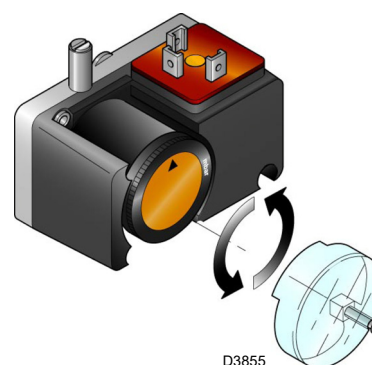

Fig. 33
- Adjust the pressure switch for the valve leak detection control device (PVP kit)(Fig. 33 at page 32), if present, according to the instructions supplied with the kit itself.
Adjust the pressure switch for the valve leak detection control device (PVP Kit) (Fig. 33), if present, according to the instructions supplied with the Kit itself.